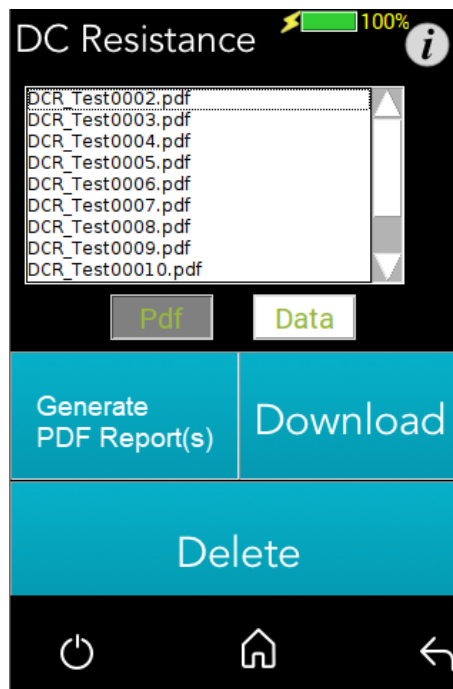

Figure 53: List of DC Resistance Reports in PDF Format
- Tap on **Generate PDF Reports** to create PDF-format report(s). Tap **PDF** to view a list of PDF-format reports (see Figure 53 below).